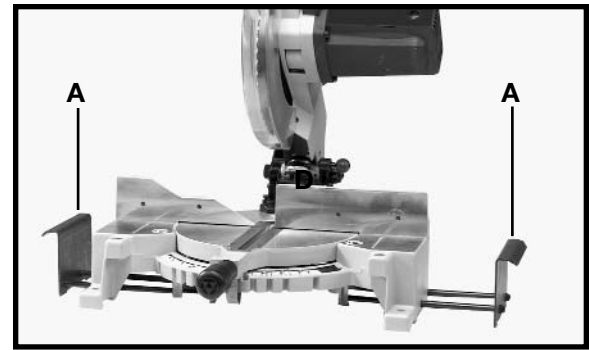

Fig. 19
Work support extensions (A) Fig. 19 are located on each side of the machine to help support long or wide workpieces. To use the work support extensions, pull them outward (Fig. 19).